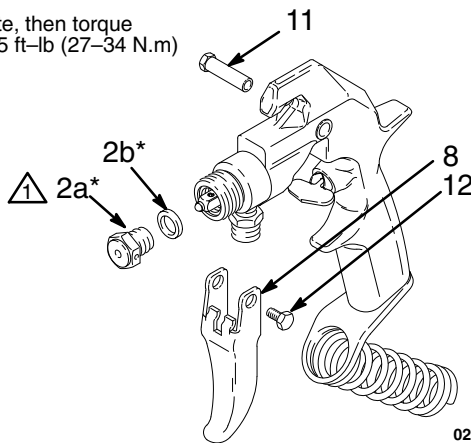

Fig. 6
3. Remove the diffuser/seat (2a\*) and gasket (2b\*). Remove the screw (12), pivot pin (11), and trigger (8). See Fig. 6.
- Grease the diffuser/seat threads. Place the new gasket (2b\*) on the diffuser/seat (2a\*) and screw the assembly into the fluid housing (7). Torque to 20–25 ft-lb (27–34 N.m). See Fig. 6.
- Install the trigger (8), pivot pin (11) and screw (12). See Fig. 6.